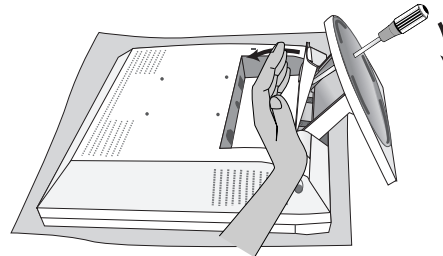

Figure R.1
2. Place monitor face down on a non-abrasive surface. Insert a screw driver (or similar object) into the hole on the bottom of stand. As shown in the picture, hold the stand cover in hand and lift up gradually by the stick and then remove (**Figure R.1**).